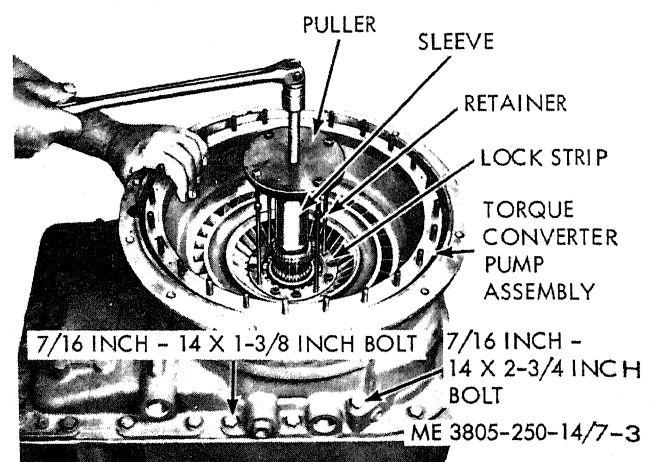

Figure 7-3. Loosening torque converter pump bearing.
(1) If necessary, remove bolts (1) securing the converter ring gear (2) to the engine flywheel.
(2) Remove and discard seal (3).
(3) Remove the twenty-four nuts (4) securing the converter front cover (5) to the converter pump (22).
(4) Remove seal (6) and bearing (7) from the cover (5) or turbine support (13).
(5) Insert two screwdrivers in the openings in the turbine assembly and, lifting straight up, remove the turbine assembly as a unit.
(6) Locate the match marks on the outer rims of the turbine support (13) and first turbine (9). The marks should be well defined on both parts. If not, deepen the marks to a maximum depth of 0.040 inch before continuing disassembly.
(7) Drive the six roll pins (8) toward the hub of the second turbine (10) until they clear the first turbine support (13). Remove the pins only if replacement is needed.
(8) Remove the first turbine (9), second turbine (10) and bearing (12) from the turbine support (13). Press the bearing (12) from the second turbine (10) by inserting three equal length pieces of drill rod in the holes of the turbine hub and pressing against the rods. Remove retaining ring (11).
(9) Remove retaining ring (14) and remove the stator (15) and spacer (16) from the ground sleeve (41).
(10) Straighten the tabs on locking plate (18) and remove four equally spaced bolts (17) from the pump hub. Fabricate the special puller (fig. 5-12) and install as shown in figure 7-3, making sure the puller sleeve rests on the ground sleeve and extends above the end of the first turbine drive gear. Tighten the puller screw until the bearing (20) has been drawn from its seat on the ground sleeve, then remove the puller.